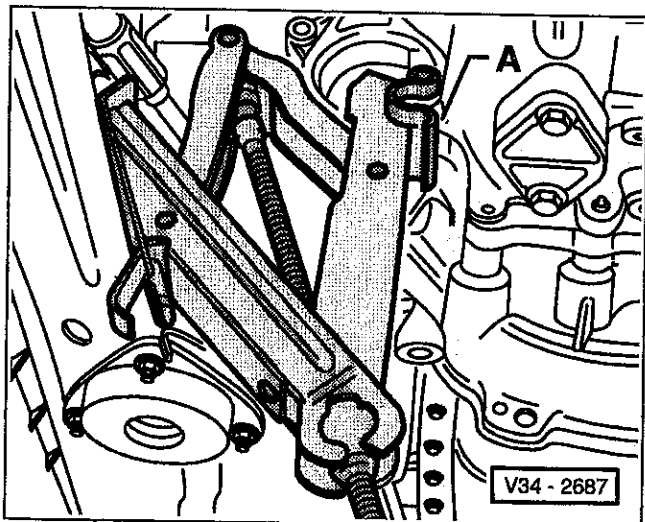

Fig. 22. Scissors jack being used to press engine/transmission assembly rearward. Be sure to mount scissors jack to engine at casting lug (A).
23. Mount scissors jack between engine and body. See Fig. 22. Then press engine/transmission assembly rearward, toward firewall.